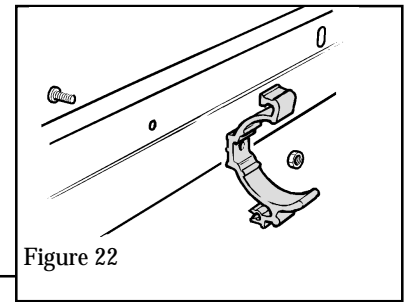

Figure 22
8.6 Fit two plastic duct support brackets to each backing plate through the round holes with the machine screws and nuts supplied. The screw heads must be on the outside (back) face of the backing plates (see figure 22).